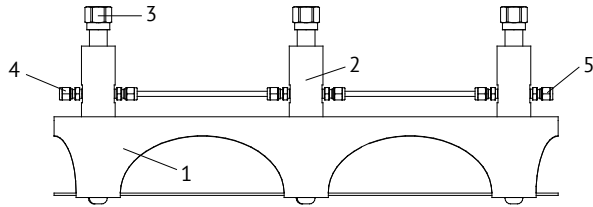

Fig. 5. External view of the collector:
4.5 The external view of the collector for 3 MI is given in fig. 5.